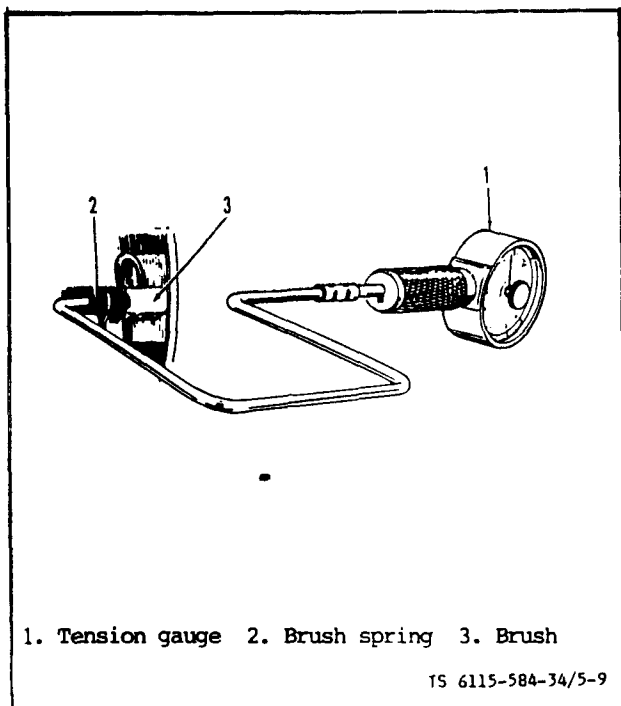

Figure 5-9. Testing Brush Spring Tension
(3) Testing Field Coils. See Operator and Organizational Maintenance Manual.
(4) Testing Brushes. See Operator and Organizational Maintenance Manual.
(5) Testing Brush Springs. Style I Starter. (see figure 5-9). Measure brush spring with tension meter. Push the brush and take reading just as the brush projects a little from the brush holder. On a new brush, the spring tension should be 32 to 40 ounces. If brush spring tension is below 20 ounces, replace it.